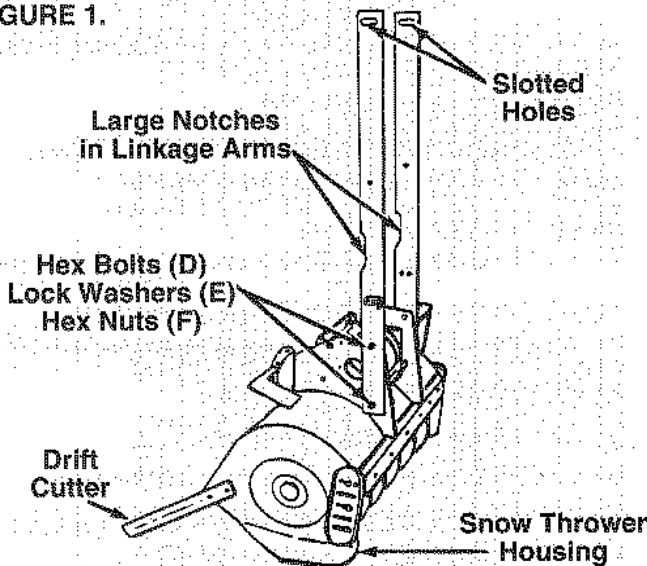

FIGURE 2.
3. Tip the snow thrower forward so it rests on the housing and the drift cutters as shown in figure 2.
4. Attach the linkage arm assemblies to the blower housing with the large notches in the linkage arms toward the top of the unit. The slotted holes in the linkage arms go away from the snow thrower. Secure with hex bolts (D), lock washers (E) and hex nuts (F).
5. Attach the helper spring brackets (G) just above the small notches in the linkage arms. See figures 2 and 3. If there are no holes in this location on the linkage arms, refer to supplement sheet PE-104, Form No. 770-8200G.